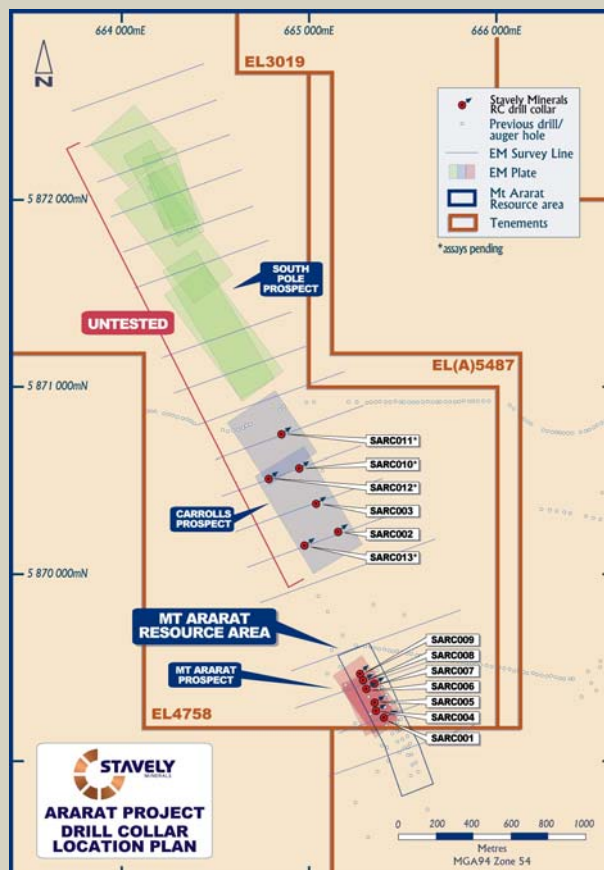

Figure 2 – Drill collar location plan for Mount Ararat VMS deposit and Carroll's prospect.
2. To test previously undrilled EM conductors at the Carroll's prospect generated by recent ground EM programmes. The aim of this component of the RC drilling programme – comprising 200m deep drill holes at 200m spacings along the 3-kilometre strike extent of the EM conductors – was to provide access for the systematic use of down-hole EM surveys which are expected to identify more conductive zones at depth. These conductive zones are likely to indicate the presence of well-developed massive sulphide copper-gold-zinc-silver mineralisation which will be tested by follow-up diamond drilling (Figure 2).